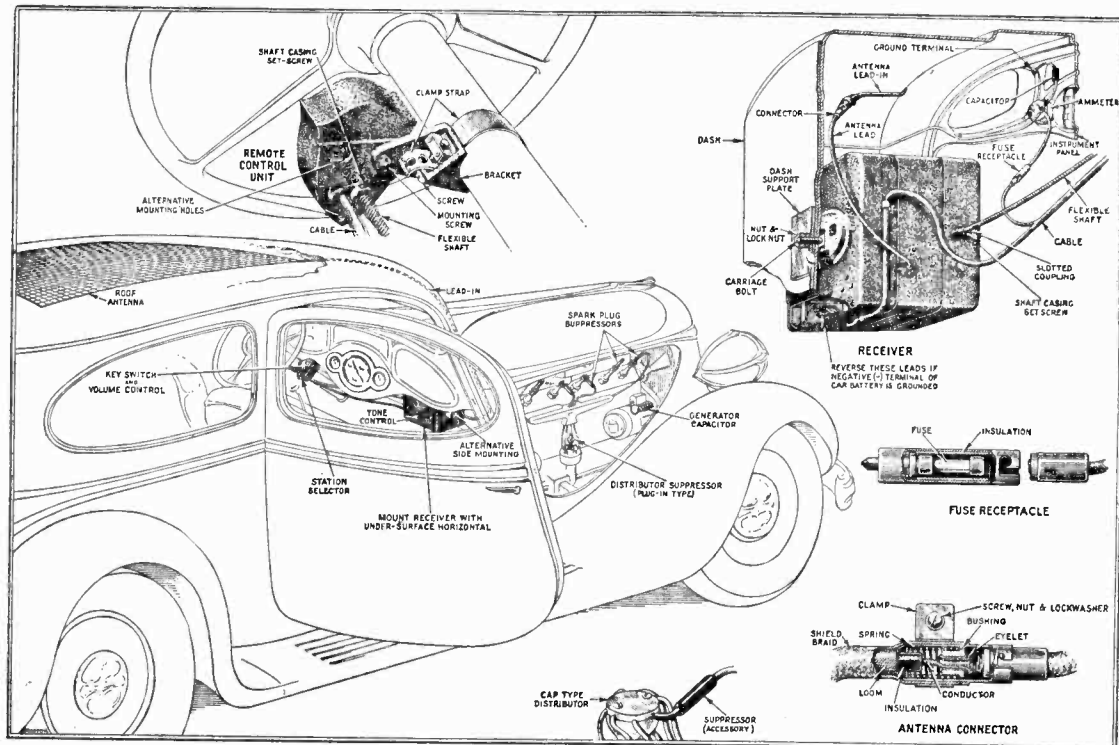

Figure 1
3. **CHECK POLARITY OF AUTOMOBILE STORAGE BATTERY SUPPLY.** If the negative (—) side is grounded to car frame, make changes to chassis connections shown in Figure 1. *Do not disturb these connections if positive (+) side is grounded.* (See details under "Mounting of Units"—page 5.) Replace case cover.
4. Determine most satisfactory mounting position (see details under "Location of Units"—page 4); spot mounting-bolt location and drill  $\frac{1}{2}$ " diameter hole. Insert bolt through dash and assemble support plate and nuts on engine side. Hang receiver over bolt head and tighten nuts. (See Figure 1 and details under "Mounting of Units"—page 5.)
5. Attach remote control unit to steering column by means of mounting bracket and strap. (See Figure 1 and details under "Mounting of Units"—page 5.)
6. Assemble flexible shaft to receiver and remote control unit. (See Figure 1 and details under "Mounting of Units"—page 6.)
8. Connect terminal at end of black lead from cable to binding-post of automobile ammeter (see Figure 1 and details under "Connections"—page 7). The ignition by-pass capacitor (equipped with two leads) should be installed at this time. (See Figure 1 and paragraph 4 under "Suppression of Ignition Interference"—page 7.)
9. Install spark-plug and distributor suppressors; also generator by-pass capacitor (see Figure 1 and paragraphs 1, 2 and 3 under "Suppression of Ignition Interference"—page 7).
Refer to Figure 1 and make connections as follows:
1. Disconnect all wires from the spark plug. Fasten one spark plug suppressor to the top of each plug and re-attach the wires to the free ends of the suppressors. These suppressors may be mounted either in line with or at right angles to the plugs (as shown in Figure 1) in order to avoid interference with metallic parts grounded to the engine or frame.